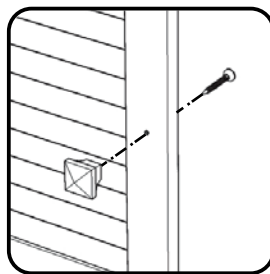

Figure 4
Attach Pull Handles to Doors (I) and (J) with Wood Screws for Pull Handle. (See Figure 4)